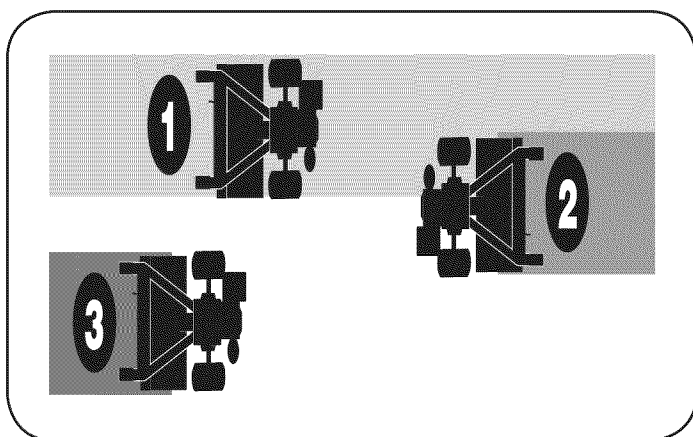

Figure 21
- If the garden size will not permit lengthwise and then crosswise tilling, then overlap the first passes by one-half a tiller width, followed by successive passes at one-quarter width. See Figure 21.